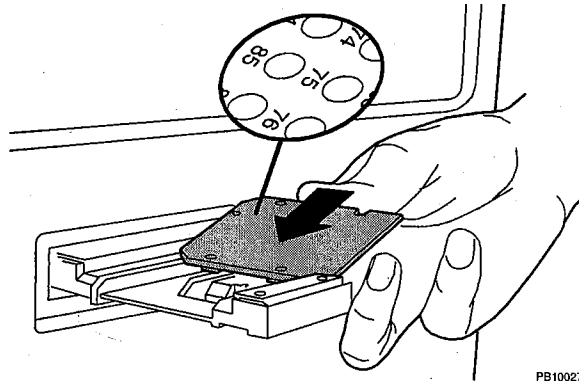

Figure 3-2 Loading the Sample Plate in a Voyager-DE or Voyager-DE PRO
2. Hold the sample plate with the bottom of the numbers facing toward the analyzer (for standard 100-well plate) and with the slanted underside of the plate facing to the left (Figure 3-2).
3. Slide the sample plate into the holder from the right side until it snaps into place (Figure 3-2). The ball bearings on the holder snap into the plate.